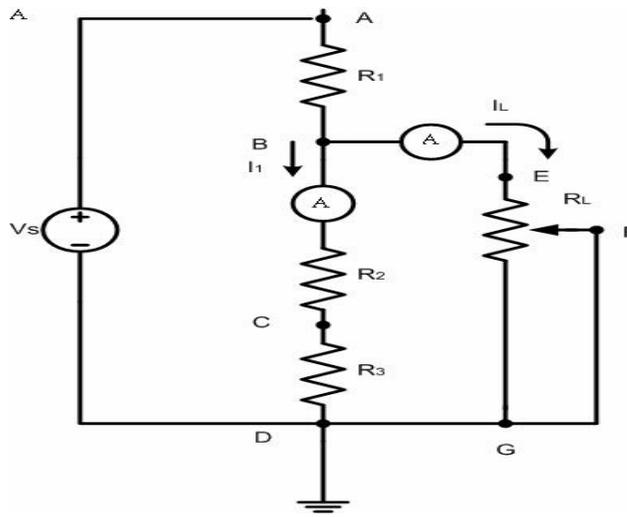

Fig. 4-7
3. Potentiometer Application Circuit, Loaded Voltage Divider fig4-7:
- a. Assemble the circuit in Figure 4-7 with the component value shown in table 4-3.